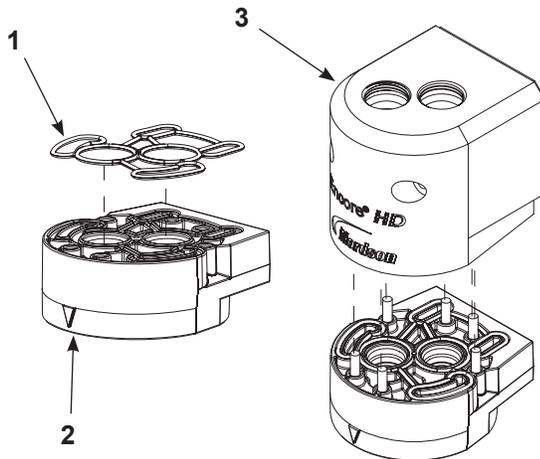

Figure 21 Assemble the Lower Y Block to Purge Manifold
1. See Figure 21. Place the customized O-ring (1) into the upper Y block (2) as shown, then fasten the upper Y block to the purge manifold housing (3) with the provided hardware (4).